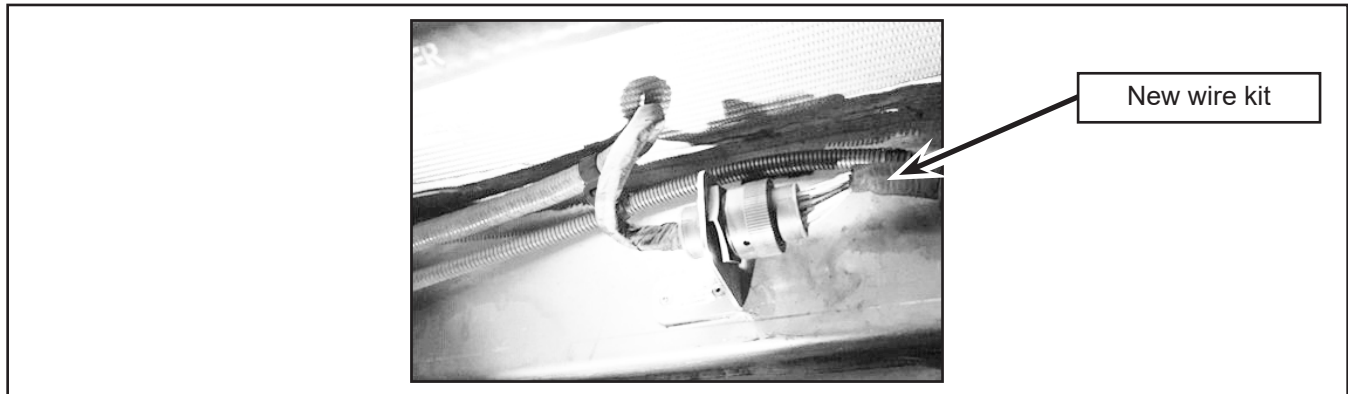

Figure 8 - Connect New Wire Kit
- 1.19. Connect the new wire kit N632000786 to the connector installed on the connector bracket (Figure 8).